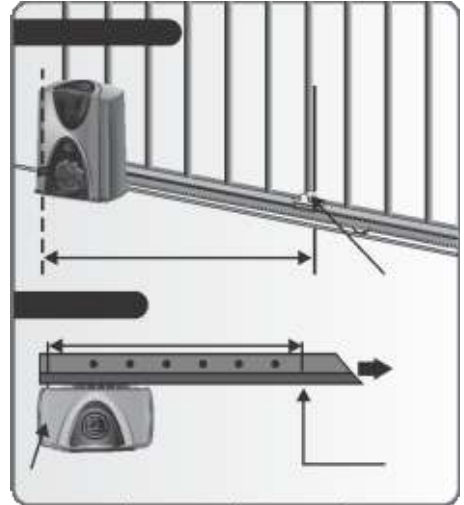

FIGURE 49.
2. Mount the origin marker to the rack, making sure that there is a minimum of 500mm from the origin sensor. Refer to Figure 49, isometric view A or plan view B.